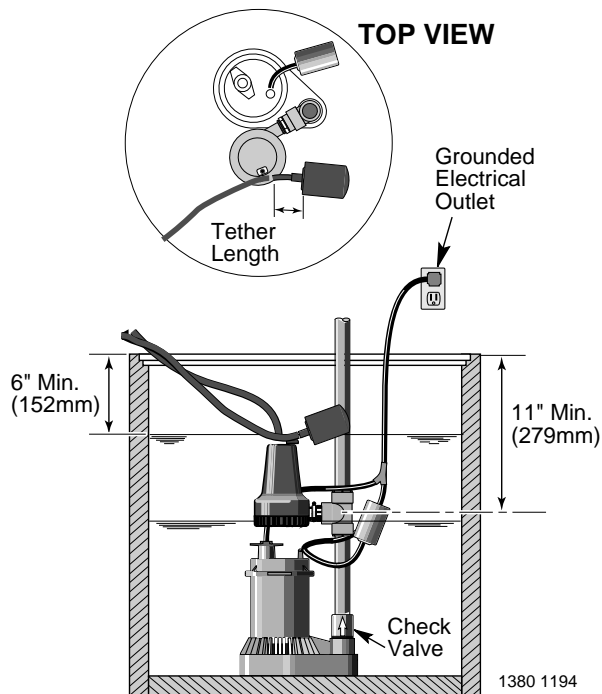

Figure 1 – Standard Installation
3. Drain sump. Measure down 11 inches (279.4mm) from top of sump; mark this point on side of sump. Install tee with center of threaded inlet at least this far below top of sump to allow sufficient room for float switch to swing (see Figure 1).
- C. Install a check valve (Flotec Stock No. 26-6) in the main sump pump discharge pipe between the pump and the backup mounting tee (see Figures 1 and 2). Flow through this check valve must be *away* from the main sump pump; don't install it backwards! This check valve will prevent recirculation into the sump during battery-powered pump operation.
1. Tether length too short on automatic float switch. Make sure that tether is at least 2" (51mm); see Figure 1.